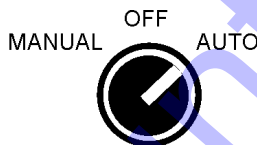

Figure 13. Manual-Off-Auto SW. (Auto Position)
1. To operate the pump automatically (float switches), place the 3-position operation switch in the **AUTO** position (Figure 13).